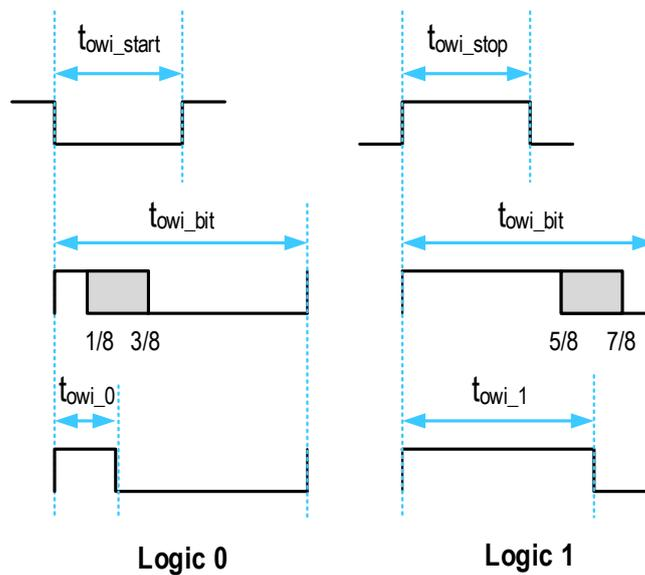

Figure 3. OWI Bit Timing Parameters
- Figure 3. OWI Bit Timing Parameters4
Figure 3 shows the timing parameters of the OWI protocol. The values are specified in section 3.
1. See section 2.3.1 and Figure 3 for further information.